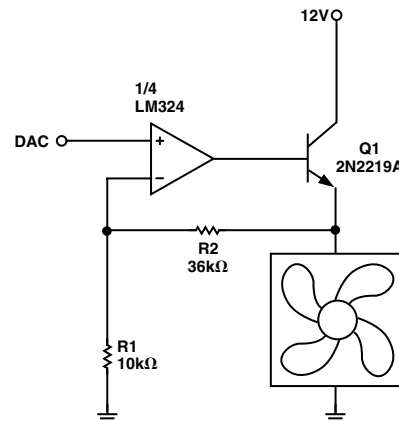

Figure 14a. Fan Drive Circuit with Op Amp and Emitter-Follower
Suitable fan drive circuits are given in Figures 14a to 14e. When using any of these circuits, the following points should be noted:
1. All of these circuits will provide an output range from zero to almost $+12\text{ V}$, apart from Figure 14a, which loses the base-emitter voltage drop of Q1 due to the emitter-follower configuration.